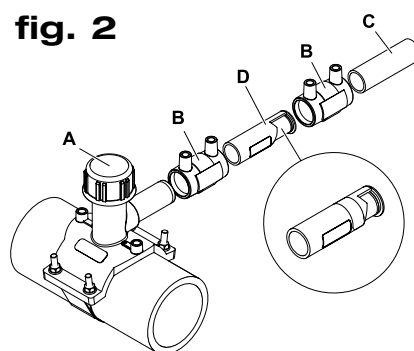

fig. 2
1. Connect the pipe adapter [D] to the service line (Fig.2)